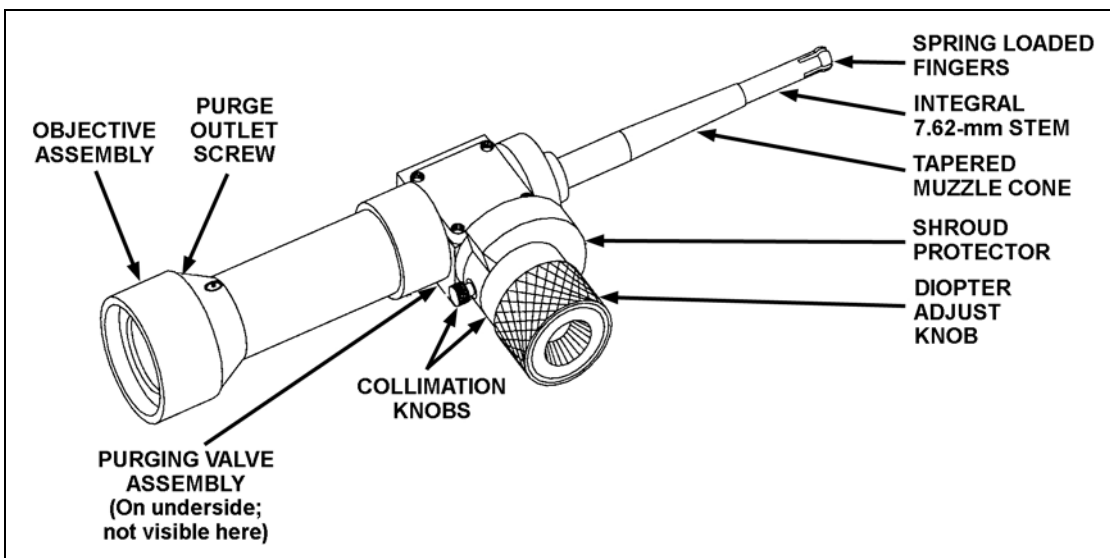
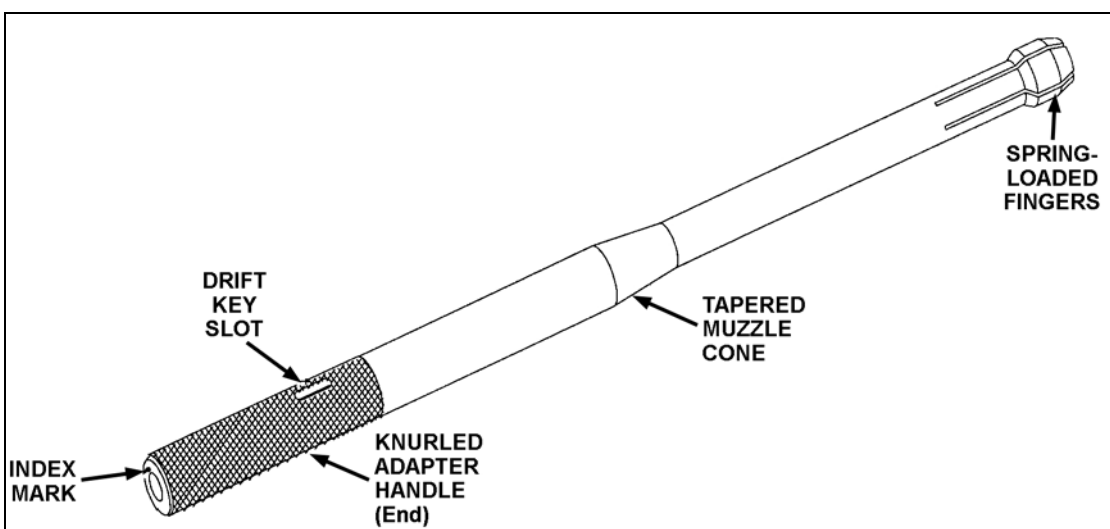
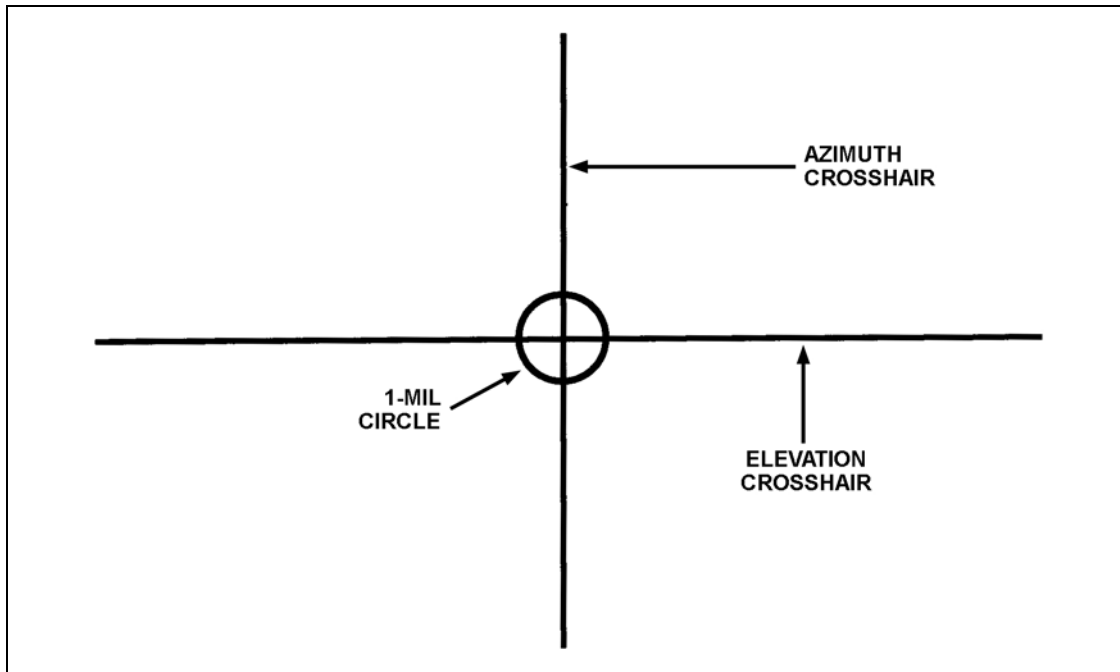

Figure B-3. The 1-1000 boresight telescope.
Figure B-4. Adapter for the 1-1000 boresight 25-mm telescope.
Figure B-5. Reticle for 1-1000 telescope.
(3) Avoid unscrewing or disassembling the telescope itself. It is not waterproof. If it does get wet, dry it at once. Water inside the telescope fogs the view.
(4) A plate on the base of the telescope lists the federal ordnance number and the serial numbers. The serial number is the bottom (last) number listed.
b. **1-1000 Boresight Telescope Assembly and Integral 7.62-mm Adapter.** The tapered stem of the A3 boresight telescope (NSN 1240-01-490-5099, Figure B-3, page B-4) fits a 7.62-mm coax gun bore. The 25-mm adapter (NSN 1240-01-441-5410, Figure B-4, page B-4) fits the 25-mm gun bore. Together, these two parts comprise the boresight telescope assembly (BTA). When used properly, this 12X telescope offers a fast, easy, and accurate way to align the gunner's sight to the axis of the gun bore. Figure B-5, page B-5, shows the reticle, which has a vertical crosshair (for azimuth), horizontal crosshair (for elevation), and a 1-mil circle (for testing the accuracy of the boresight kit).